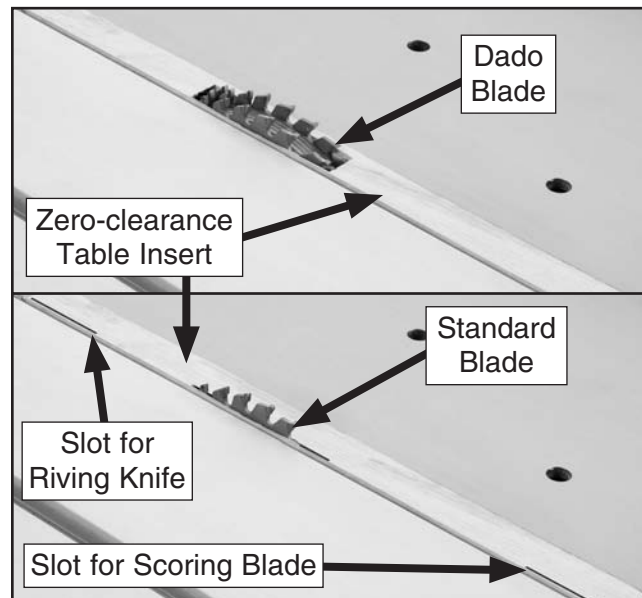

Figure 96. Zero-clearance table inserts for dado and standard blades.
- Connect the saw to power, start the motor, and slowly raise the blade into the zero-clearance table insert (see **Figure 96**) only as high as you intend to cut with the insert.